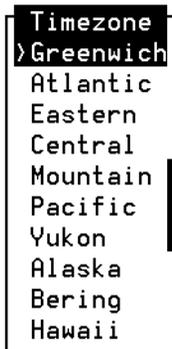

Figure 3-12. UNIX Time Zone Choices Menu
1. Press (Choices) to display the list of time zones (Figure 3-12).